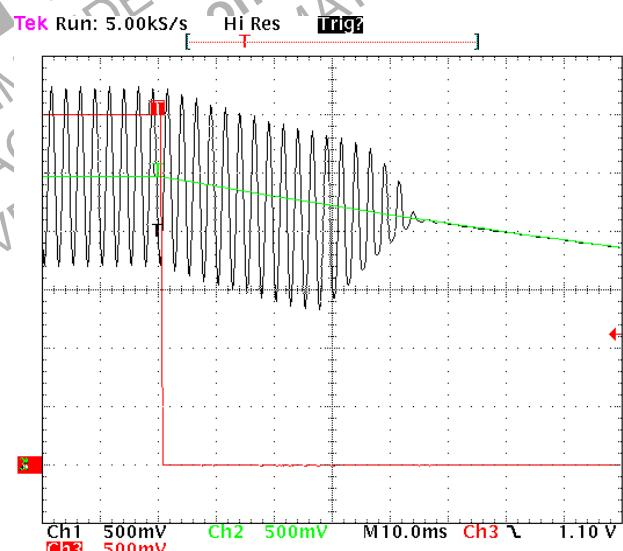

Figure 41. Turning-Off Time Zoom
– 50 ms later the audio signal is cut off as the gain is turned to zero internally as shown in Figure 41.